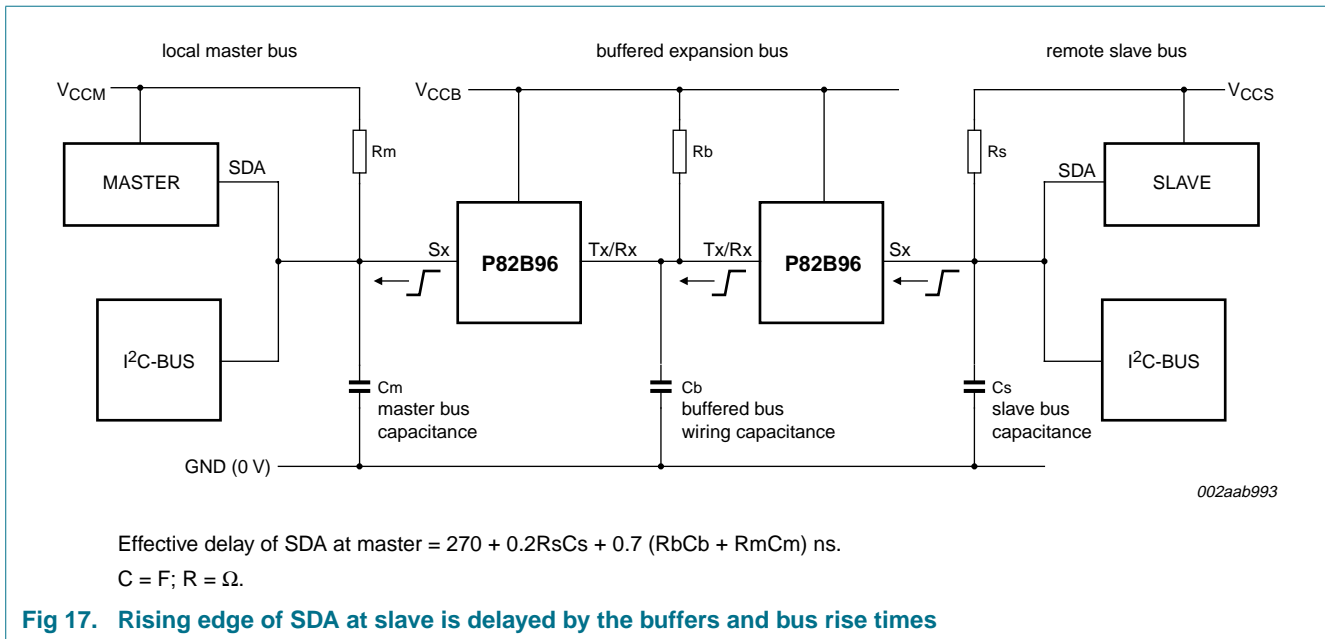

Fig 17. Rising edge of SDA at slave is delayed by the buffers and bus rise times
Figure 15, Figure 16, and Figure 17 show the P82B96 used to drive extended bus wiring, with relatively large capacitance, linking two Fast mode I2C-bus nodes. It includes simplified expressions for making the relevant timing calculations for 3.3 V or 5 V operation. Because the buffers and the wiring introduce timing delays, it may be necessary to decrease the nominal SCL frequency below 400 kHz. In most cases the actual bus frequency will be lower than the nominal Master timing due to bit-wise stretching of the clock periods.
- C** — The propagation delay of the slave’s response signal through the buffers and wiring back to the master. The important delay is that of a rising edge in the SDA signal. Rising edges are always slower and are therefore delayed by a longer time than falling edges. (The rising edges are limited by the passive pull-up while falling edges are actively driven). See Figure 17.
edge from the master reaching the slave (Figure 15) minus the effective delay (stretch) of the SCL rising edge (Figure 16) plus total delays in the slave's response data, carried on SDA, reaching the master (Figure 17).